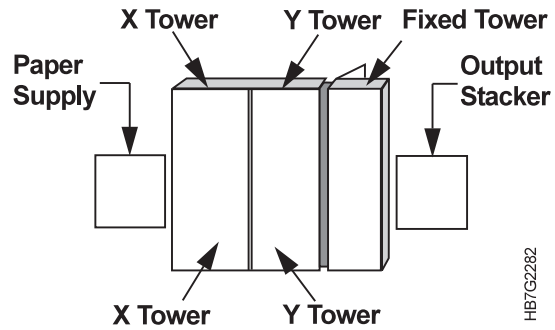

Figure 71. Right Side View of the InfoColor 70
- 1 Open the fixed tower door on the left side of the machine, as shown in Figure 71 on page 85.